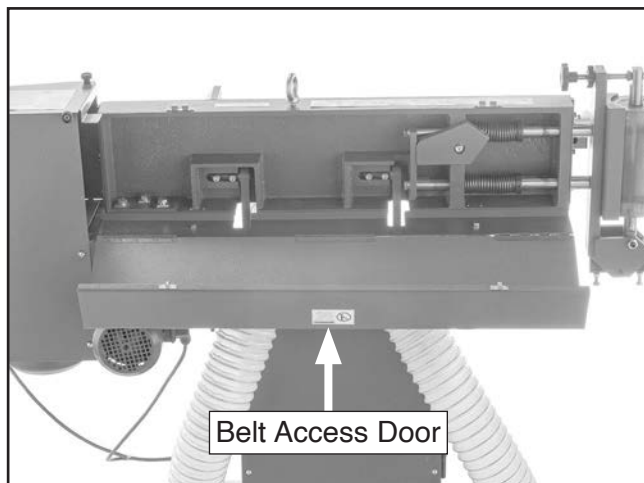

Figure 18. Belt access door pushed open.
4. Push belt access door toward rear of machine to open it (see **Figure 18**).